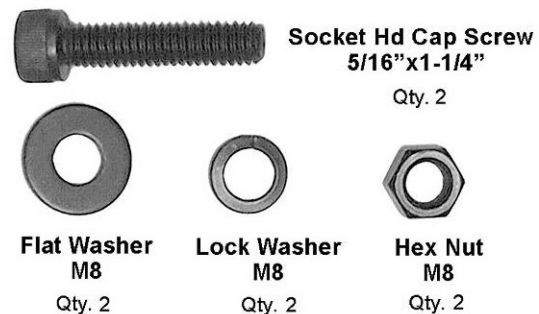

Figure 2
- 1 Hardware Package (JPSR-RHP) – Figure 2